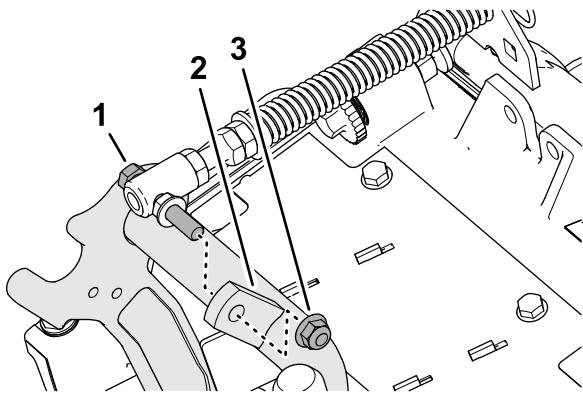

Figure 9
3. Remove the flange locknut (3/8 inch) that secures the cap screw of the turf compensation spring to the right tab of the carrier frame, and remove the compensation spring from the cutting unit (Figure 9).